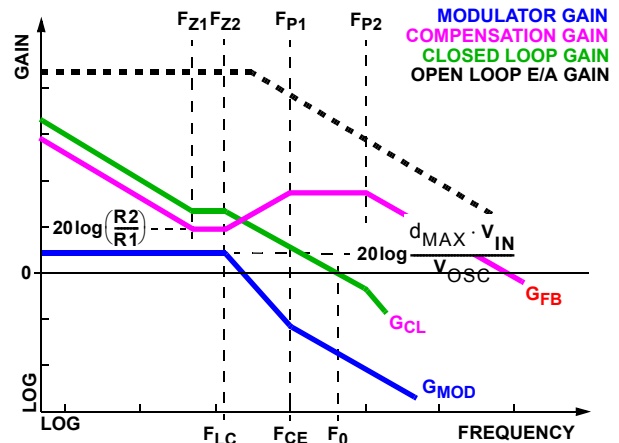

FIGURE 22. ASYMPTOTIC BODE PLOT OF CONVERTER GAIN
Figure 22 shows an asymptotic plot of the DC/DC converter's gain vs. frequency. The actual Modulator Gain has a high gain peak dependent on the quality factor (Q) of the output filter, which is not shown. Using the above guidelines should yield a compensation gain similar to the curve plotted. The open loop error amplifier gain bounds the compensation gain. Check the compensation gain at  $F_{P2}$  against the capabilities of the error amplifier. The closed loop gain,  $G_{CL}$ , is constructed on the log-log graph of Figure 22 by adding the modulator gain,  $G_{MOD}$  (in dB), to the feedback compensation gain,  $G_{FB}$  (in dB). This is equivalent to multiplying the modulator transfer function and the compensation transfer function and then plotting the resulting gain.